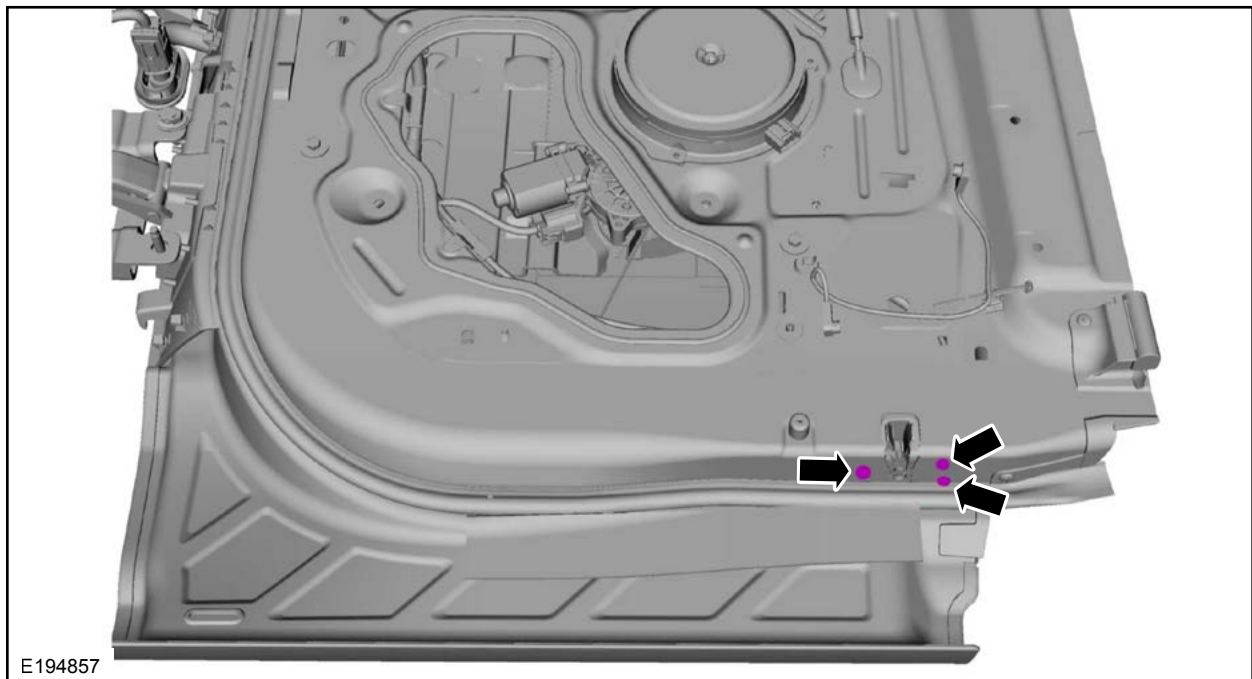

FIGURE 30
4. Remove the three lower door latch bolts. See Figure 30.
10. Install the three lower door latch bolts. See Figure 30.